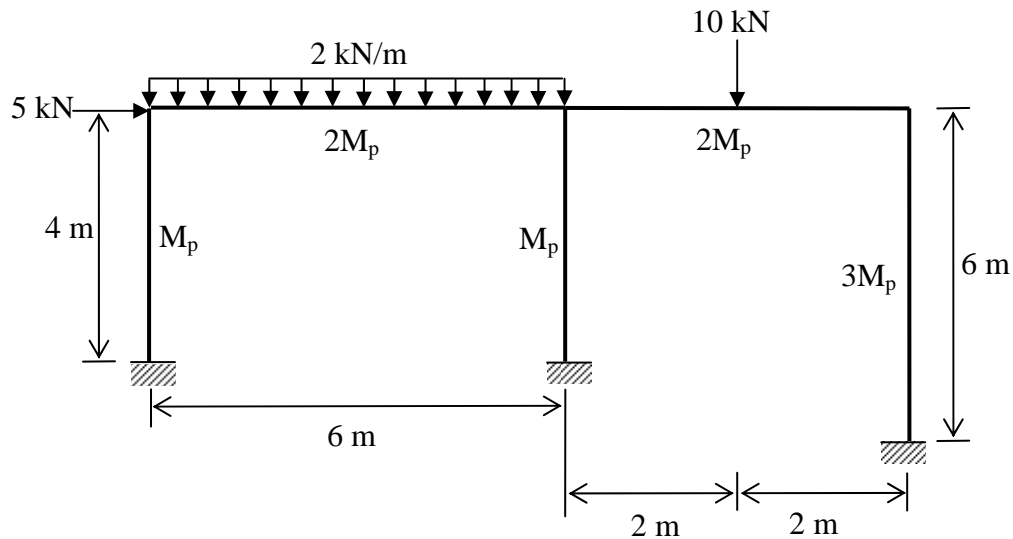

Figure 8
- (b) Determine the collapse load factor for the two bay portal frame to carry the working loads as shown in Figure 8. The plastic moment capacities of all members are given in the figure.